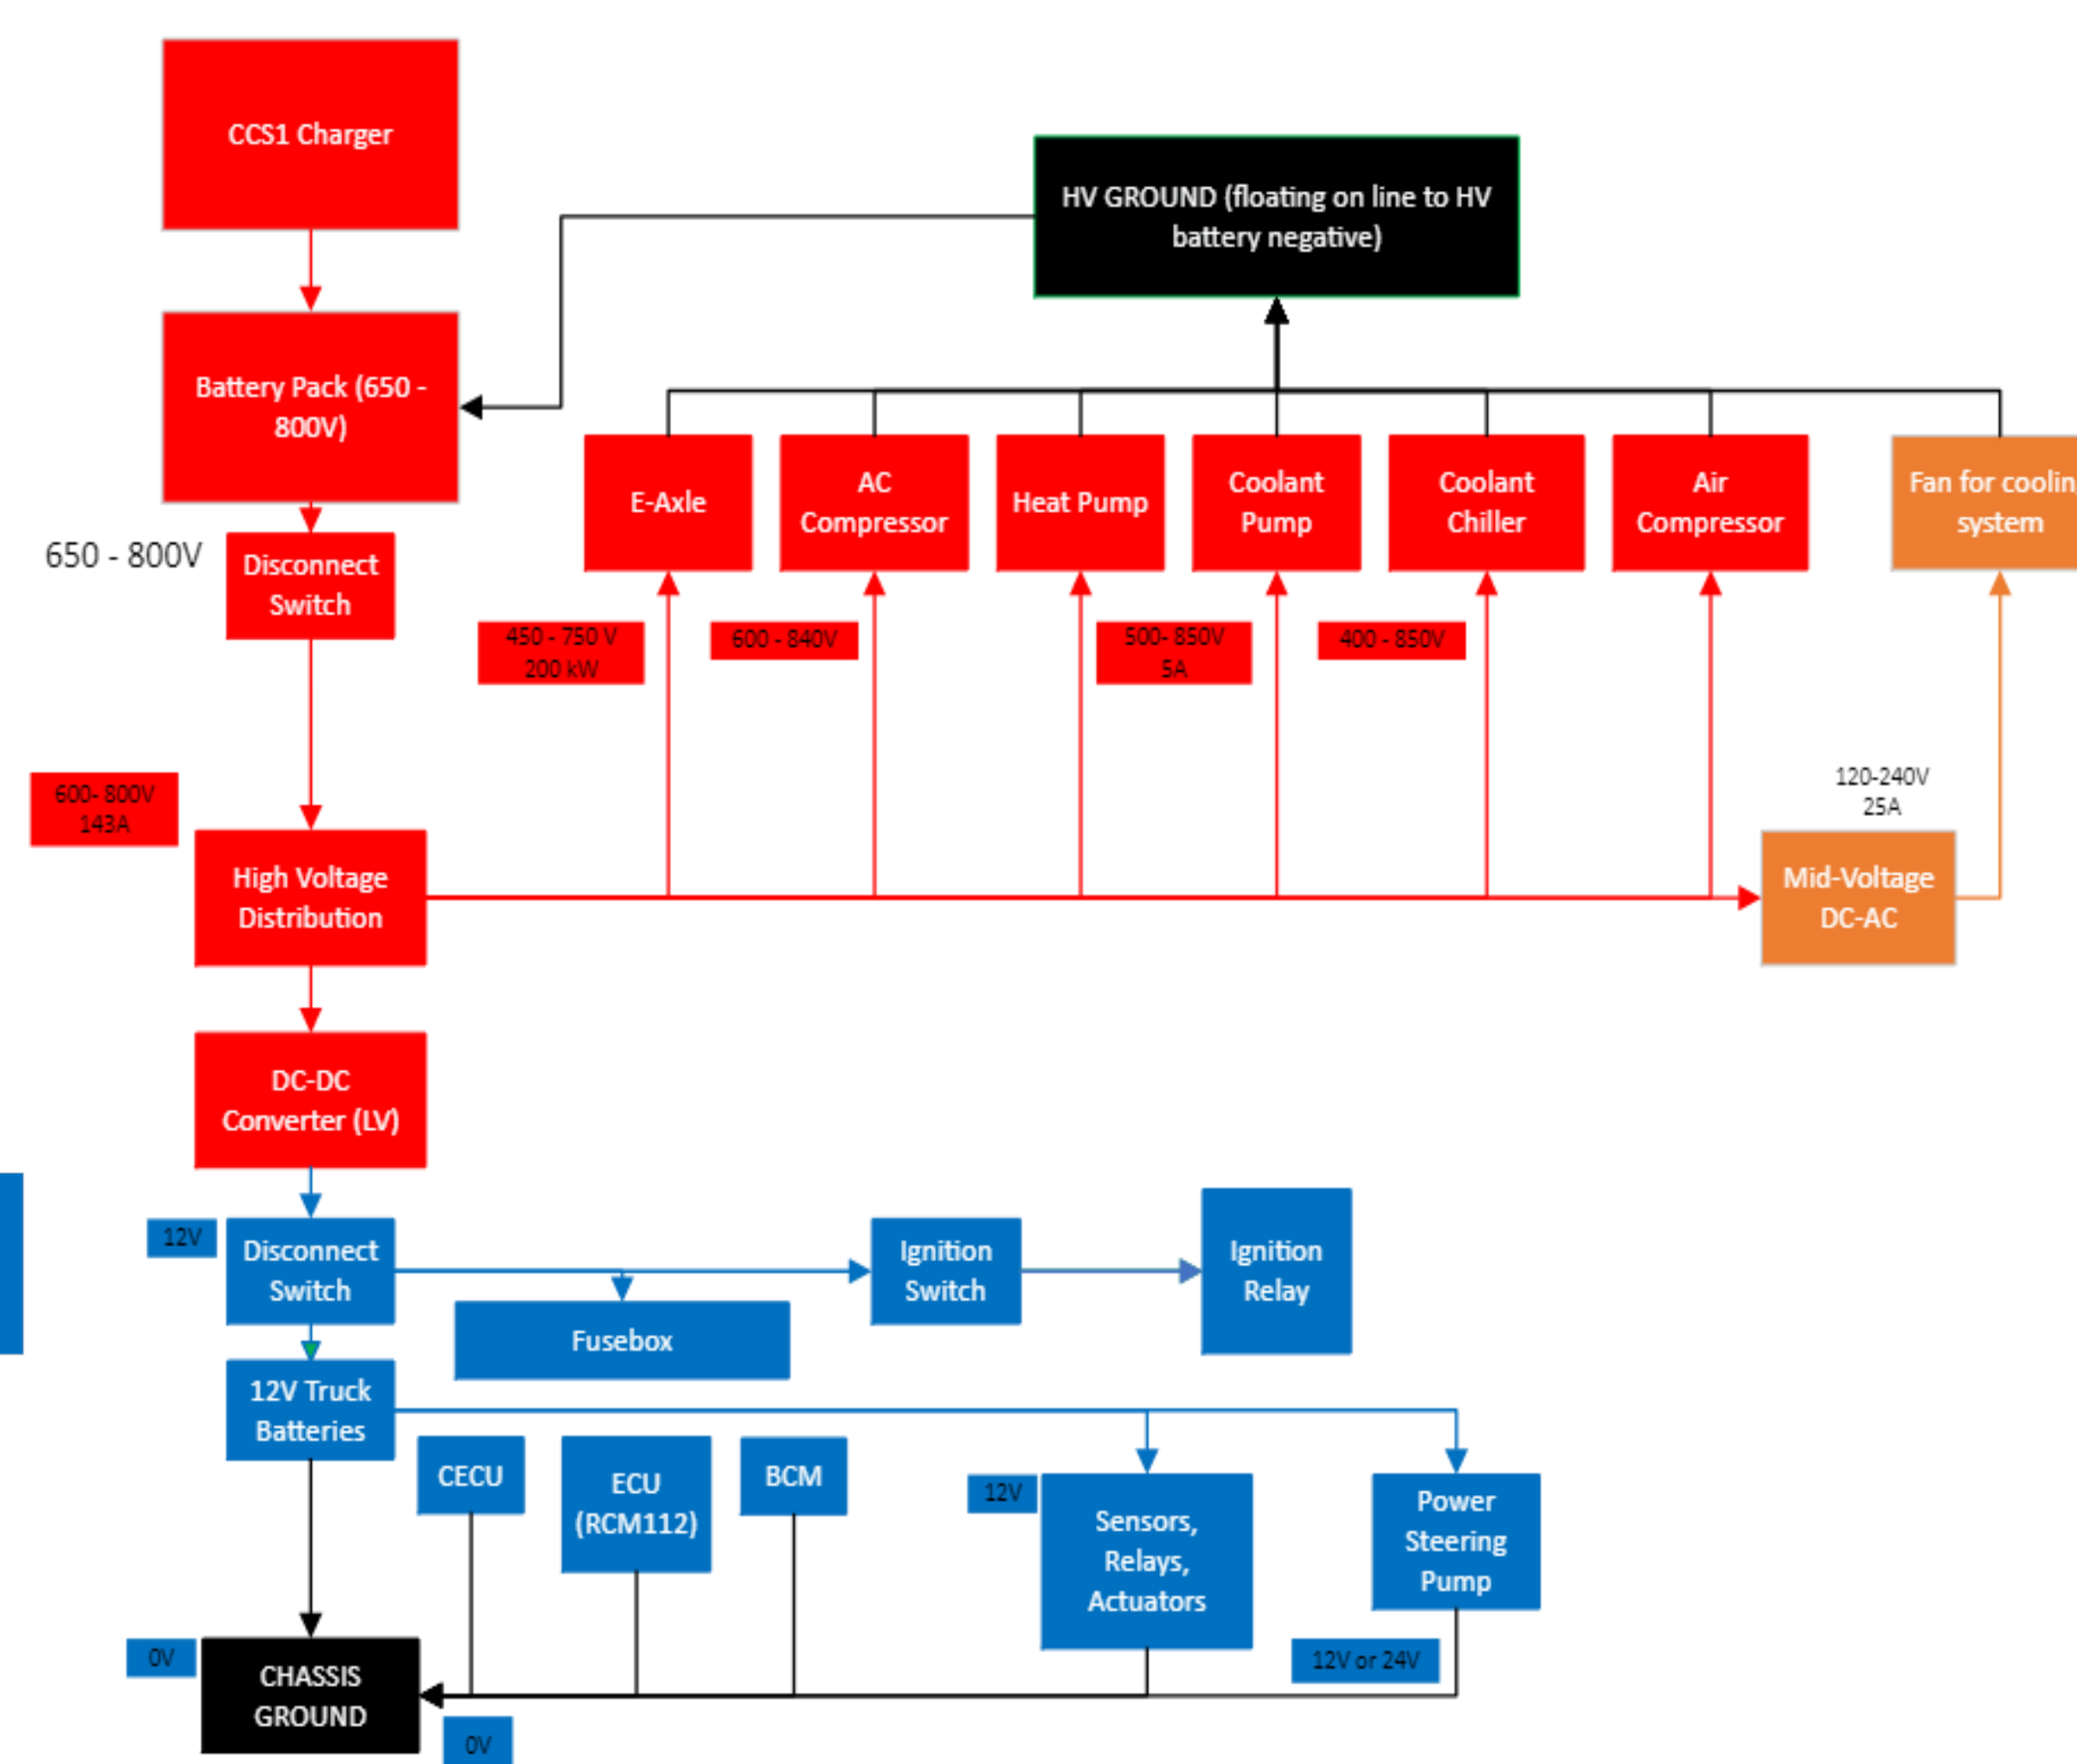

Figure 1: High Level Block Diagram
- We created the first iteration of a high-level block diagram shown in Figure 1.